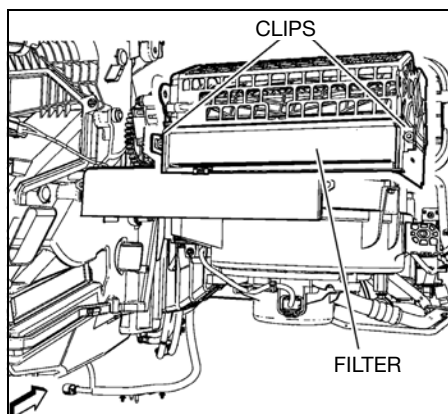

Fig. 11
5. Disengage clips and remove cabin air filter (see Fig. 11).